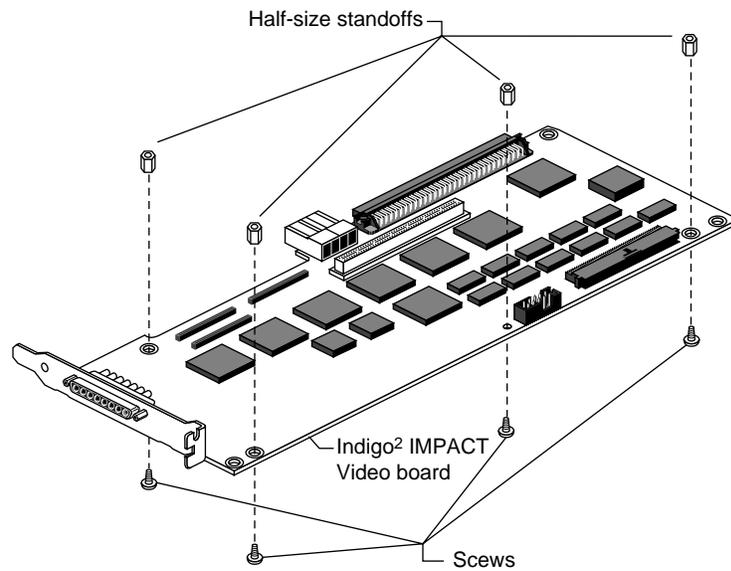

Figure 3-4 Inserting Standoffs on the Video Board
5. Attach the four half-size standoffs (female-female) to the video board using the screws provided (Figure 3-4). Note the location of the standoffs. They are not located on the corners.